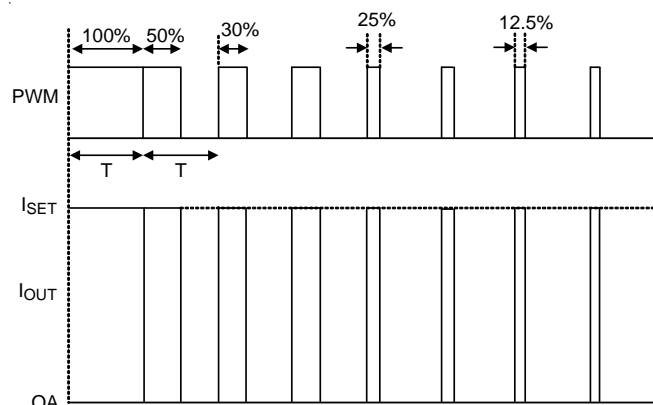

Figure 4. LED Current Control Using PWM Dimming Mode (MIX = VDC)
**PWM Mode Dimming :** When the MIX pin is set to VDC, the dimming mode operates in PWM Mode (Figure 4). During the PWM dimming, the current source turn-on/off is synchronized with the PWM signal. The LED current frequency is equivalent to PWM input frequency.